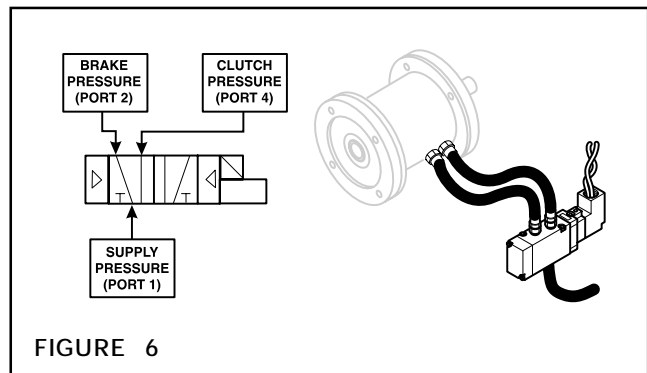

FIGURE 6
1. If the brake is to be set when the solenoid is de-energized, connect the port marked 2 to the brake and the port marked 4 to the clutch (See Figure 6).
2. Connect the air supply line to the inlet port marked 1 (See Figure 6).